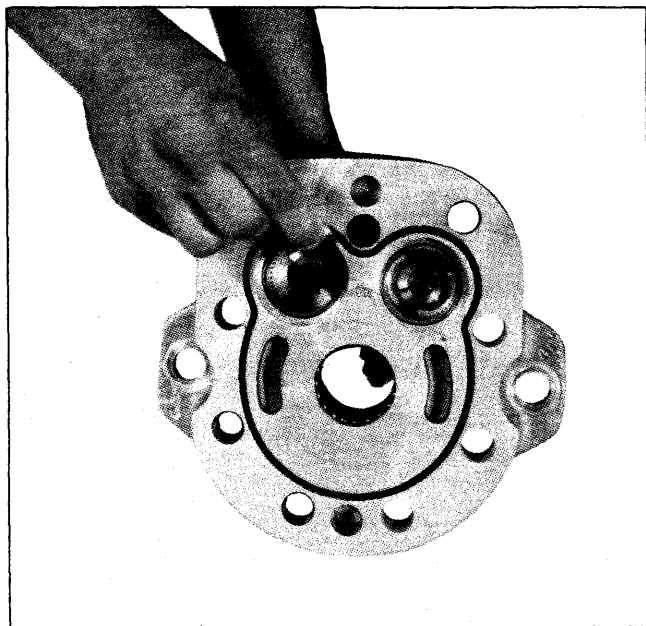

FIGURE 12
14.) The step bearing that remains in the front end cap should be taken out and inspected. There is an O-ring and Teflon back-up ring under this part. (Fig. 12.)